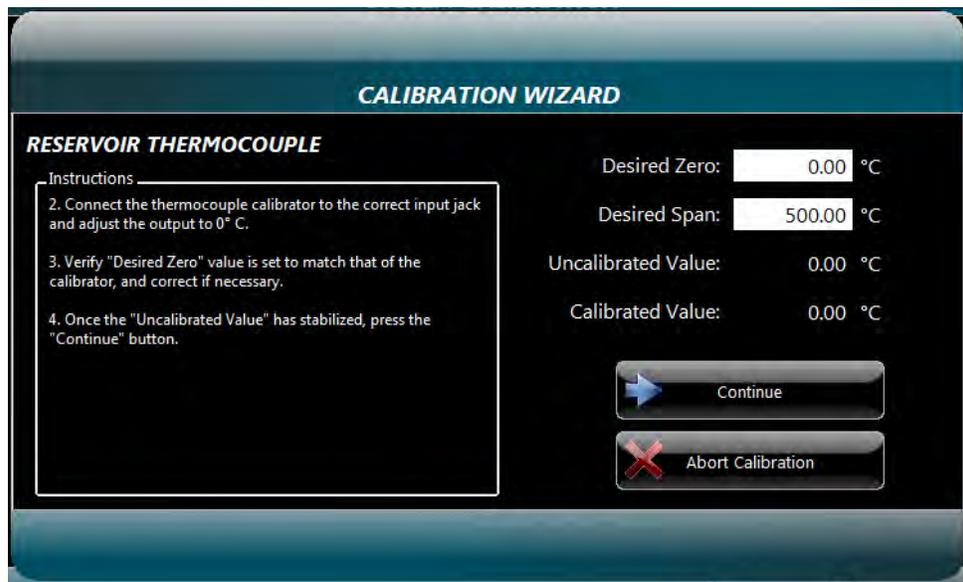

Figure 5-4 – Thermocouple Calibration Wizard display
4. Verify 'Desired Zero' value is set to match that of the calibrator and correct if necessary (figure 5-4).